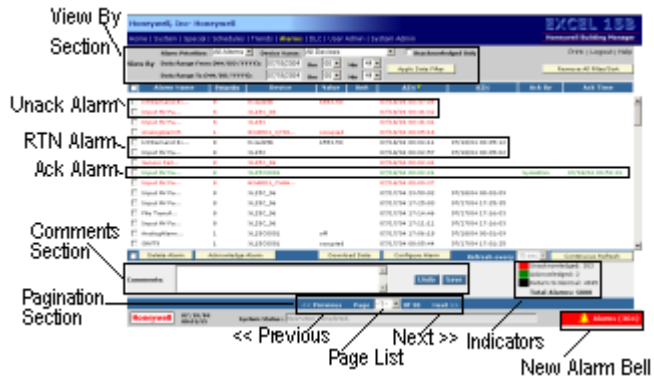

Fig. 29. Alarms Page
The following table lists the column headings and the respective section that it maps with in an alarm record (refer to Fig. 29).
They are square colored boxes; each colored box displays the number of alarms in a particular state. In addition, the total number of alarms on the "Alarms" page is also displayed (refer to "Indicators" in Fig. 29).
Alarms can be sorted based on a single or a combination of filter criteria displayed in the "View By" section on the "Alarms" page (refer to the "View By" section in Fig. 29). Sorting alarms displays only selected alarm records; the details of which match the specified criteria. For example, sorting alarms based on the device name will allow the Operator to know which device is generating the maximum number of alarms. It will help in analyzing the situation and take corrective actions.
2. Select the “Unacknowledged Only” checkbox in the “View By” section (refer to Fig. 29).
2. Select the checkbox adjacent to one or more unacknowledged alarms (refer to Fig. 29).